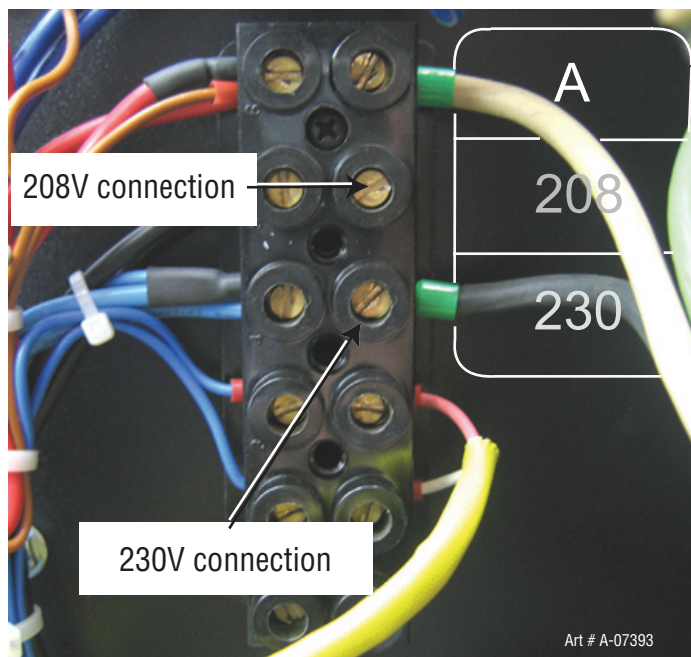

Figure 3-1: Voltage Selections for Fabricator 210 (Wired for 230V)
2. Refer to Figure 3-1. The power supply comes wired for 230V. Locate the black input power wire secured to the input voltage selection block. Loosen the set screw for both voltage locations.